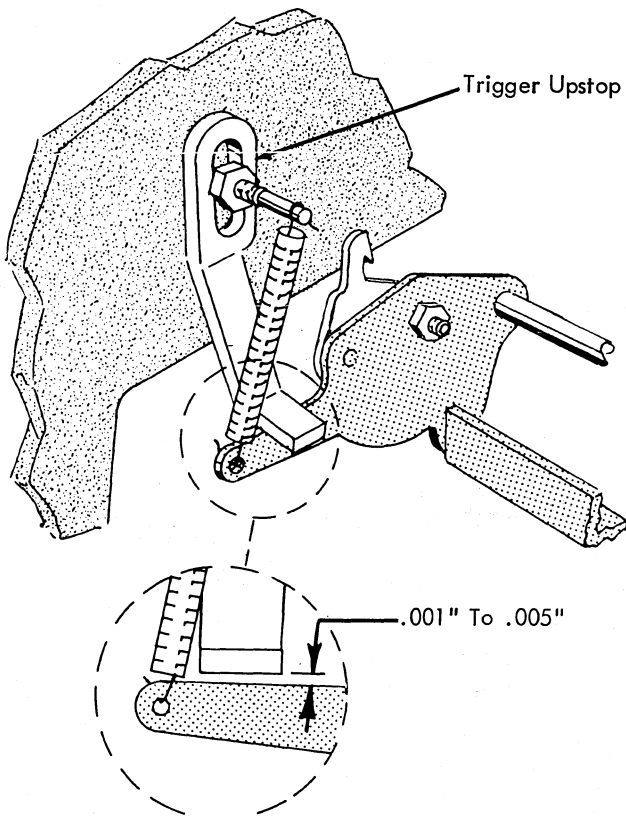

FIGURE 107. Trigger Lever Upstop
CAUTION: In adjusting the escapement trip link be sure that the trigger lever upstop (Fig. 107) and the adjustment screw in the spacebar latch lever (Fig. 136, page 41) do not restrict the upward travel of the trigger lever.
9. Trigger Lever Upstop - With the machine at rest and a clearance of $.007''$ to $.010''$ existing between the trigger and the lug on the torque bar, adjust the trigger lever upstop so that it has a clearance of $.001''$ to $.005''$ with the trigger lever (Fig. 107).